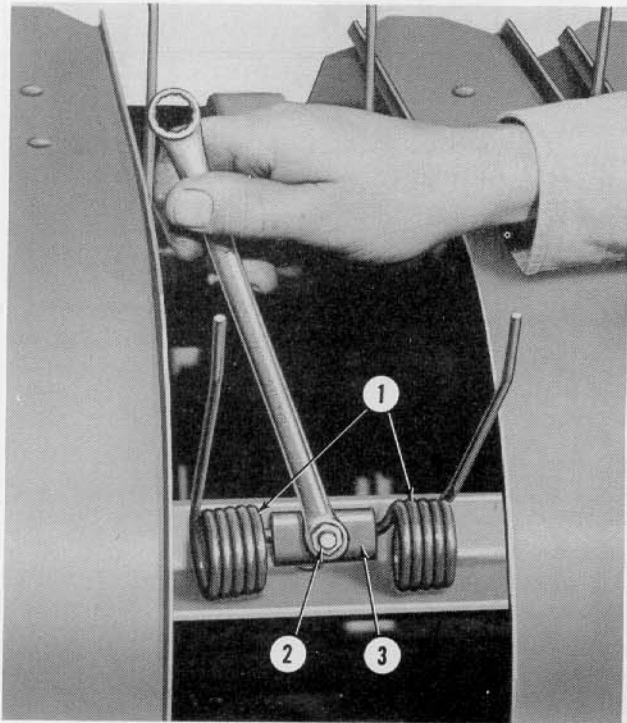

Figure 32
3. Remove the lockwasher and nut (2), Figure 32, and the clamp (3), then replace the damaged spring tooth with a new assembly (1). Secure with the clamp (3) and lockwasher and nut (2).